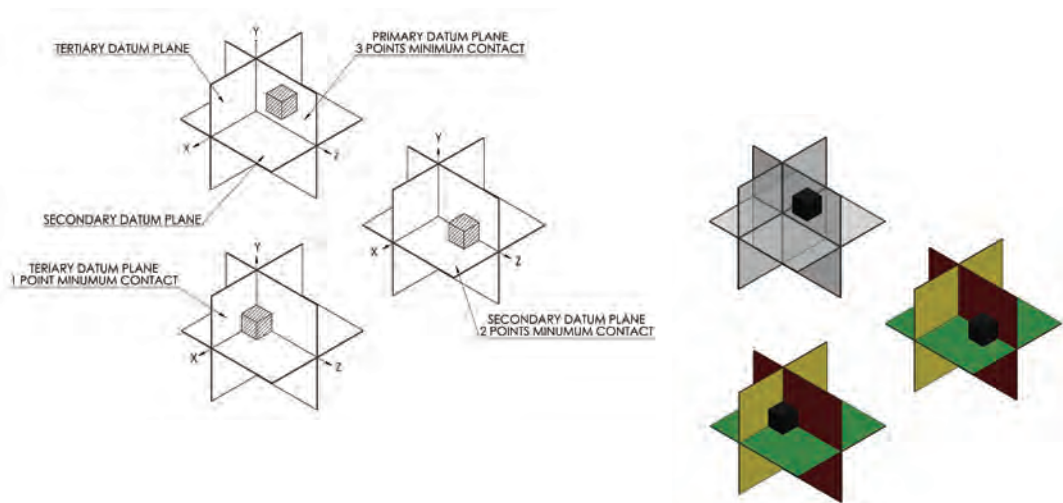

Figure 5-3 Primary, secondary, tertiary features & datum planes.
The primary is the first feature contacted (minimum contact at 3 points), the secondary feature is the second feature contacted (minimum contact at 2 points), and the tertiary is the third feature contacted (minimum contact at 1 point). Contacting the three (3) datum features simultaneously establishes the three (3) mutually perpendicular datum planes or the datum reference frame. If the part has a circular feature that is identified as the primary datum feature then as discussed later a datum axis is obtained which allows two (2) mutually perpendicular planes to intersect the axis which will be the primary and secondary datum planes. Another feature is needed (tertiary) to be contacted in order orientate (fix the two planes that intersect the datum axis) and to establish the datum reference frame. Datum features have to be specified in an order of precedence to properly position a part on the Datum Reference Frame. The desired order of precedence is obtained by entering the appropriate datum feature letter from left to right in the Feature Control Frame (FCF) (see Section 5 for explanation for FCF). The first letter is the primary datum, the second letter is the secondary datum, and the third letter is the tertiary datum. The letter identifies the datum feature that is to be contacted however the letter in the FCF is the datum plane or axis of the datum simulators. Note that there can be multiple datum sets used to reference different features on the casting. See Fig. 5-3 for Datum Features & Planes.